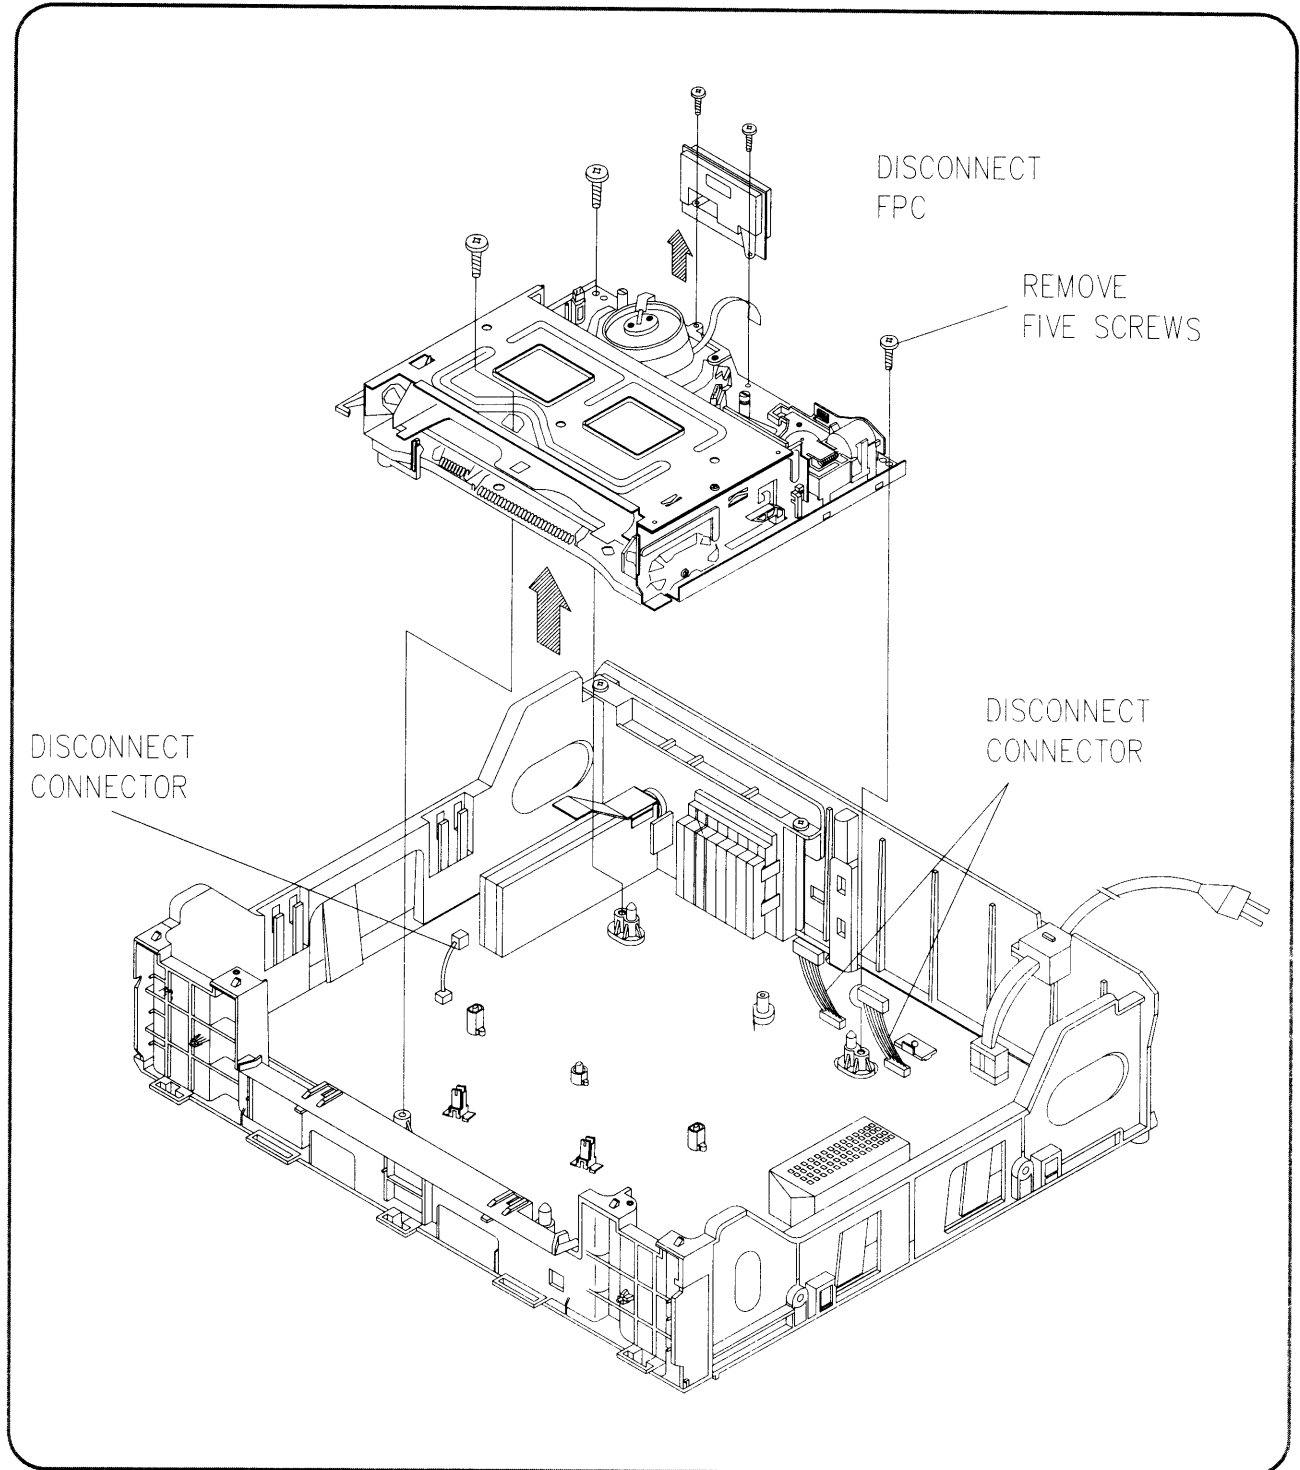

FIG. 6
6. COVER PRE-AMP/DECK AS REMOVAL (FIG. 6)